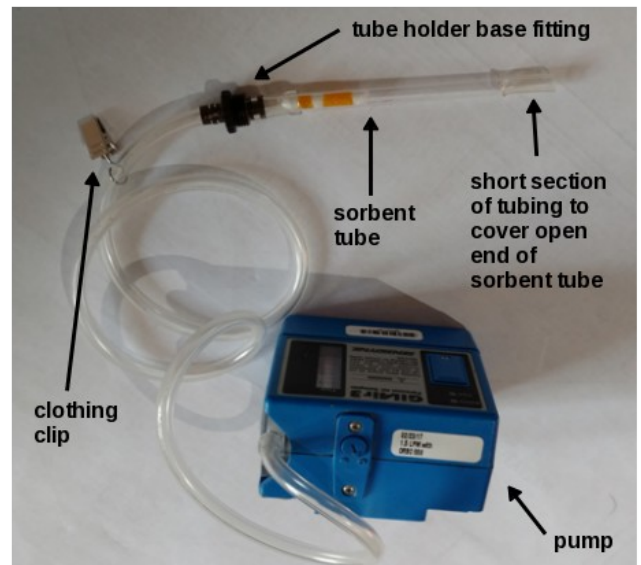

Figure T1-3. Sampling train configuration for collecting air samples.
4.4 Cover the exposed end of the sorbent tube. Place a short 1" section of tubing on sorbent tube by carefully pushing the short section over the tube (See Figure T1-3). Short tubing sections are located in a bag inside the Galson pack.
- 5.4 Cover the exposed end of the sorbent tube.** Secure a short 1" section of tubing on sorbent tube by carefully pushing the short section over the tube. This completes assembly of the sampling train for the regular sample as shown in Figure T1-3. Short tubing sections are located in a bag inside the Galson pack.